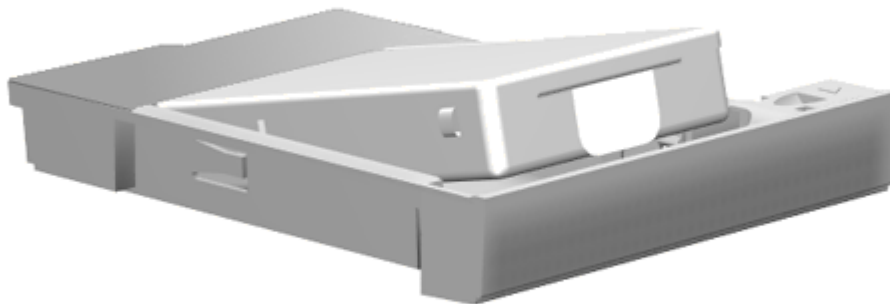

Figure 6-6. Placing a Hard Drive in the Hard Drive Carrier
3. Slide the drive toward the rear of the carrier until it is seated (Figure 6-6).